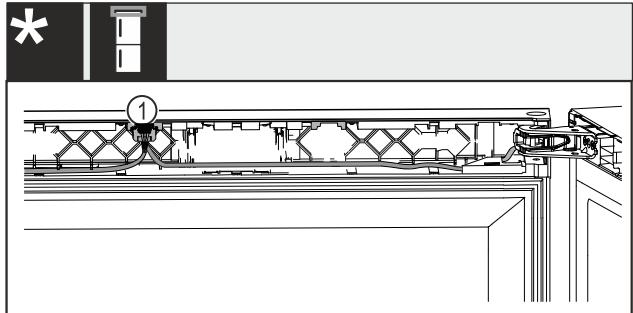

Fig. 50 Wine-freezer combinations*
- ▶ Snap the plug Fig. 50 (1) into the guide.*